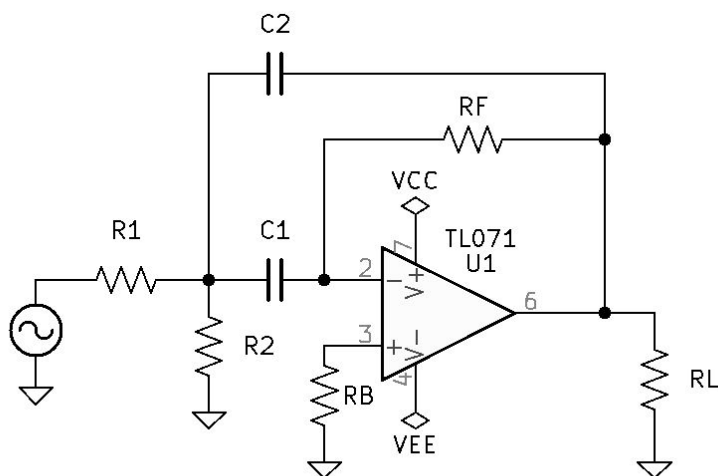

Figure 8.8: Single Stage Band-Pass Second-Order Active Filtering Circuit.
1. See Figure 8.8 *Single Stage Band-Pass Second-Order Active Filtering Circuit* on page 85.